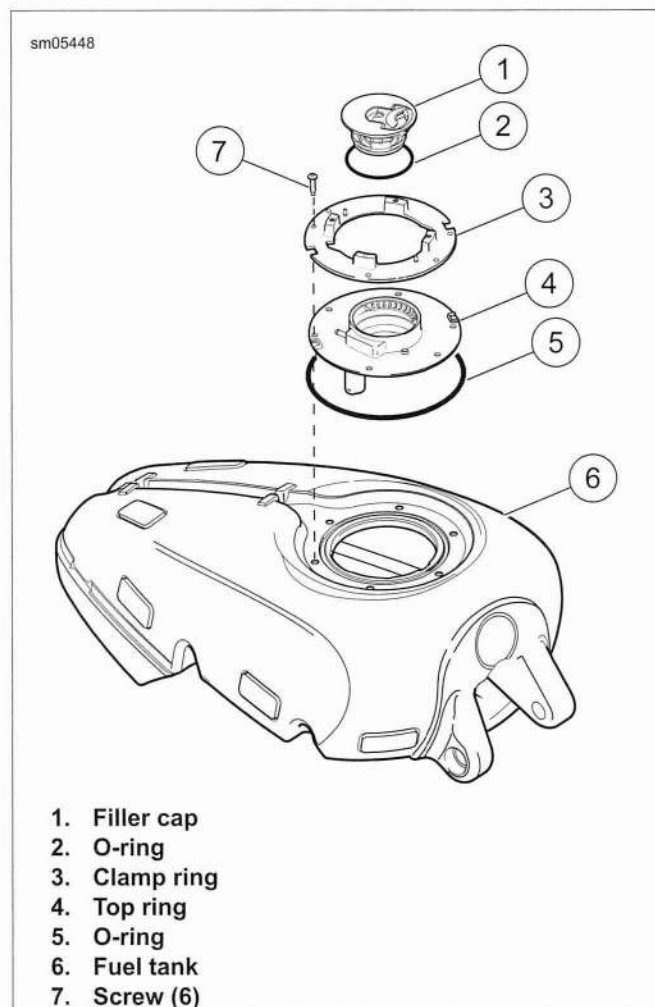

Figure 4-16. Fuel Tank Assembly
1. See Figure 4-16. Remove filler cap (1) with O-ring (2).
2. Remove screws (7) and clamp ring (3).
3. Remove top ring (4).
4. Remove O-ring (5).